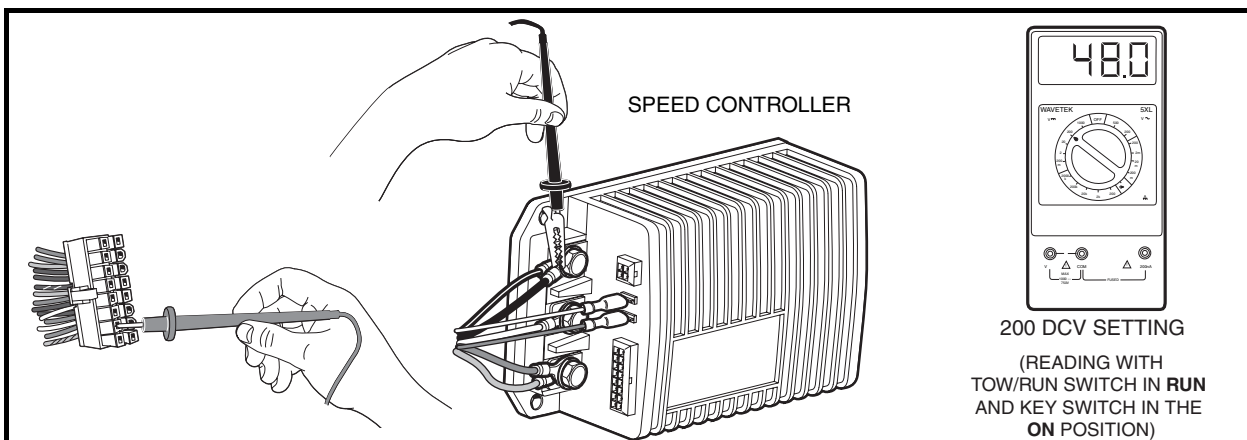

Figure 18-16 Pin 10 Test
4. With a multimeter set for 200 volts DC, insert the red (+) probe of the multimeter into pin 10 (tan wire) of the 16-pin connector. See following **CAUTION.** With an alligator clip, connect the black (–) probe to the B– terminal of the speed controller (**Figure 18-16, Page 18-27**).